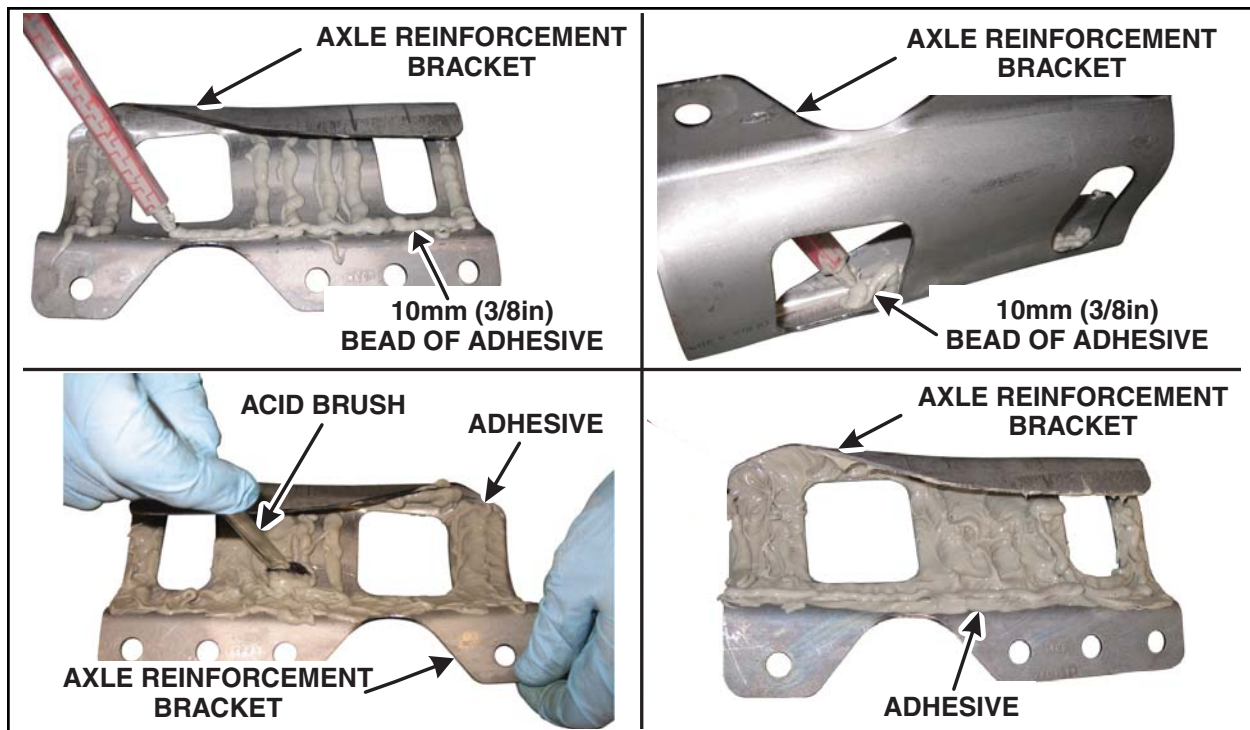

FIGURE 7
12. Using 10 mm (3/8 in) beads, dispense 1/4 of the adhesive cartridge onto each of two mating axle reinforcement brackets. Make sure to run a bead around the perimeter of each axle reinforcement bracket. Spread the adhesive evenly with an acid brush. See Figure 7.